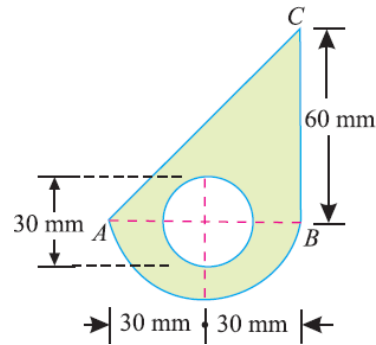

Fig.21
1. Find the moment of inertia of the lamina with a circular hole of 30 mm diameter about the axis AB as shown in Fig.21
5. An I-section is made up of three rectangles as shown in Fig. 21. Find the moment of inertia of the section about the horizontal axis passing through the centre of gravity of the section.